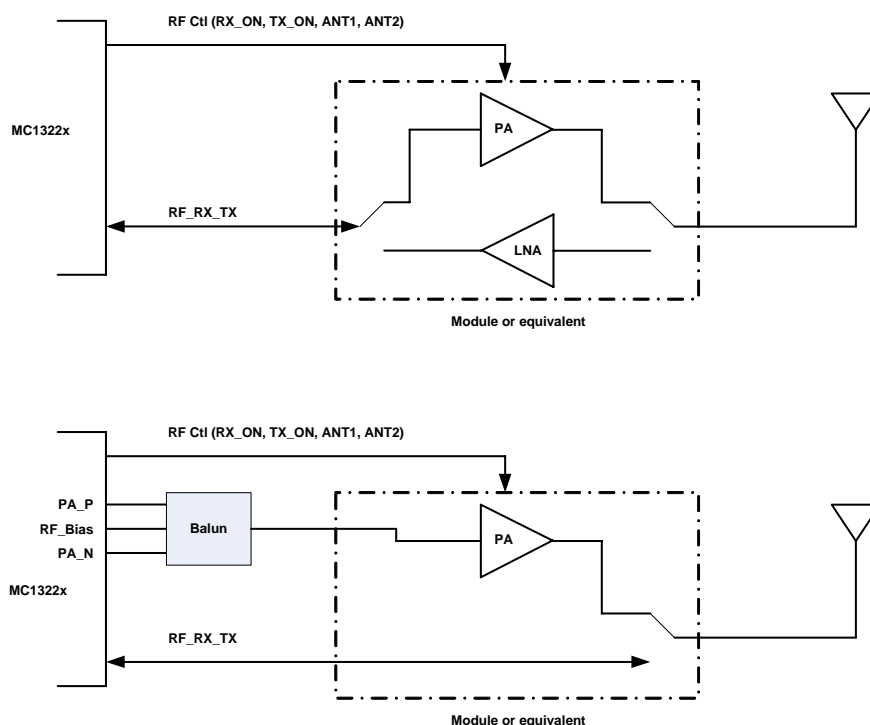

Figure 3-14. Using the MC1322x with External RF Components
For those applications choosing to include an external LNA for greater sensitivity, an external PA for greater output gain, or even multiple antennas, the MC1322x provides hardware support. Figure 3-14 illustrates that there are two basic modes for using the MC1322x with external RF hardware:
- Single-ended, single port only - as shown in the top configuration of Figure 3-14, with proper control, the single-ended port can be routed to a PA for TX and a secondary path (shown here with an LNA) for RX. The LNA may not be included because of the excellent receive sensitivity of the MC1322x
- Dual port, i.e., using secondary complementary PA outputs for amplified power along with the single-ended RF_RX_TX port - as shown in the bottom configuration of Figure 3-14, an alternative approach uses the device secondary PA outputs with an external PA as a separate TX path and the single-ended port as simply the receive path.